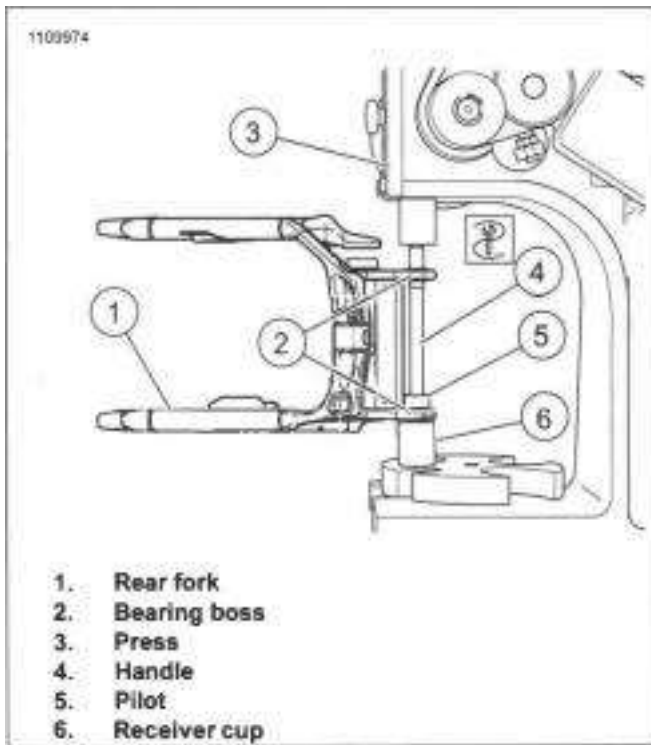

Figure 3-85. Removing Rear Fork Bearings
1. See Figure 3-85. Remove bearings from rear fork using.